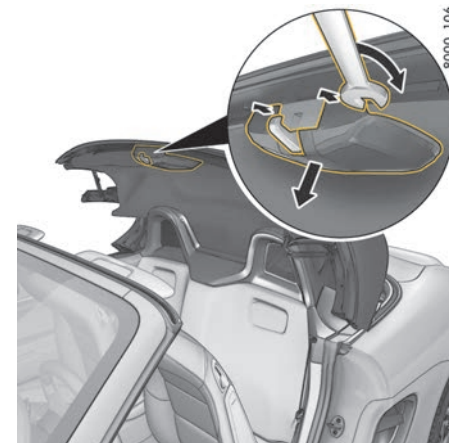

Fig. 64: Removing cover of convertible top lock
1. With an open-ended wrench, carefully lever the plastic cover of the convertible-top lock out of the locking points (Fig. 64), and remove.